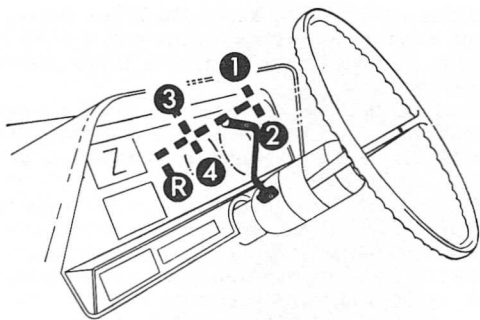

FIG 6:5 Column gearchange lever positions
- (b) Locate the selector forks on the gears, the reverse fork and first/second fork must be fitted with the long boss facing forward (see FIG 6:3). Locate the third/top gear fork with the long boss facing to the rear.